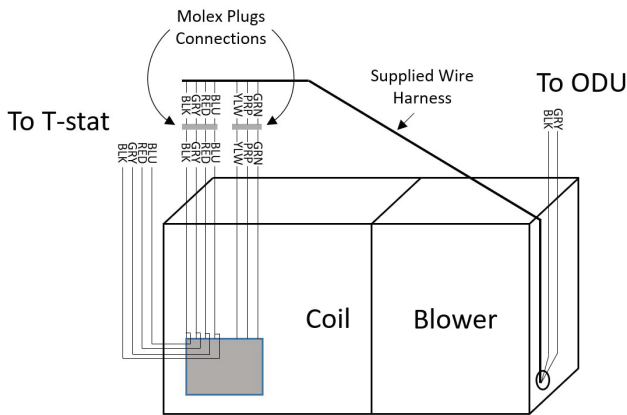

Figure 25
8. View Figure 25 for reference of Wire Harness Setup.